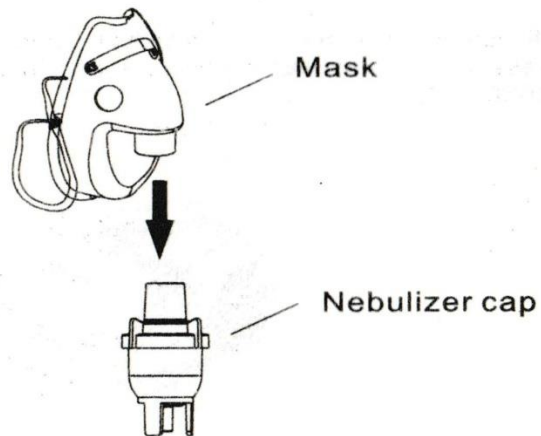

Figure 5
8. If using the mouthpiece, attach it firmly into the nebulizer cap. The cap is designed to fit tightly (Figure 5).